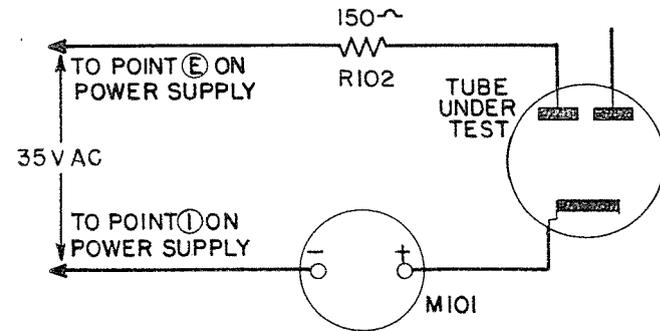

Figure 2-6. Simplified Rectifier Test Circuit
(See Figure 2-6)
e. Pressing the button P6 sets up a circuit similar to Figure 2-6, but a higher voltage is applied, 287 volts ac, for testing rectifiers of the cold cathode type such as the 0Z4 type.
f. Pressing button P2 also establishes a circuit similar to Figure 2-6, but a lower voltage, 20 volts ac, is used to protect the delicate cathodes of diode detector types such as the 6H6.